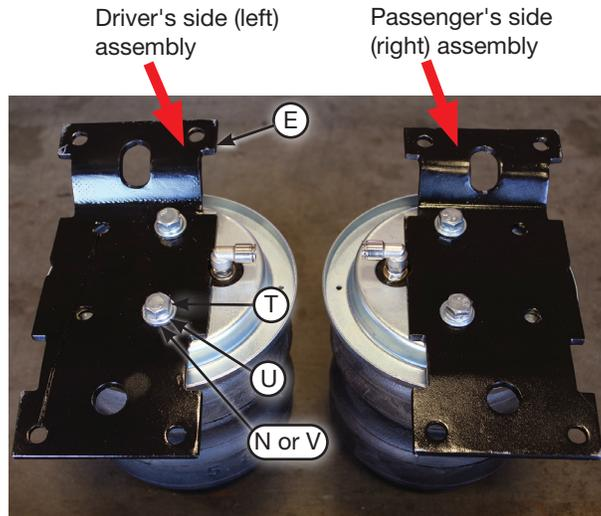

fig. D.8
- Set the upper air spring bracket (E) onto the top of the air spring using one set of holes with the 3/8"-24 x 7/8" hex-cap screw (T), 3/8" lock washer (U) and 3/8" flat washer (N or V) (Fig. D.8). Install the remaining air spring bracket onto the remaining air spring, using the opposite holes from those that were previously used. This makes the air spring assemblies into left- and right-hand units. Torque the hardware to no more than 20 lb.-ft. (27Nm).